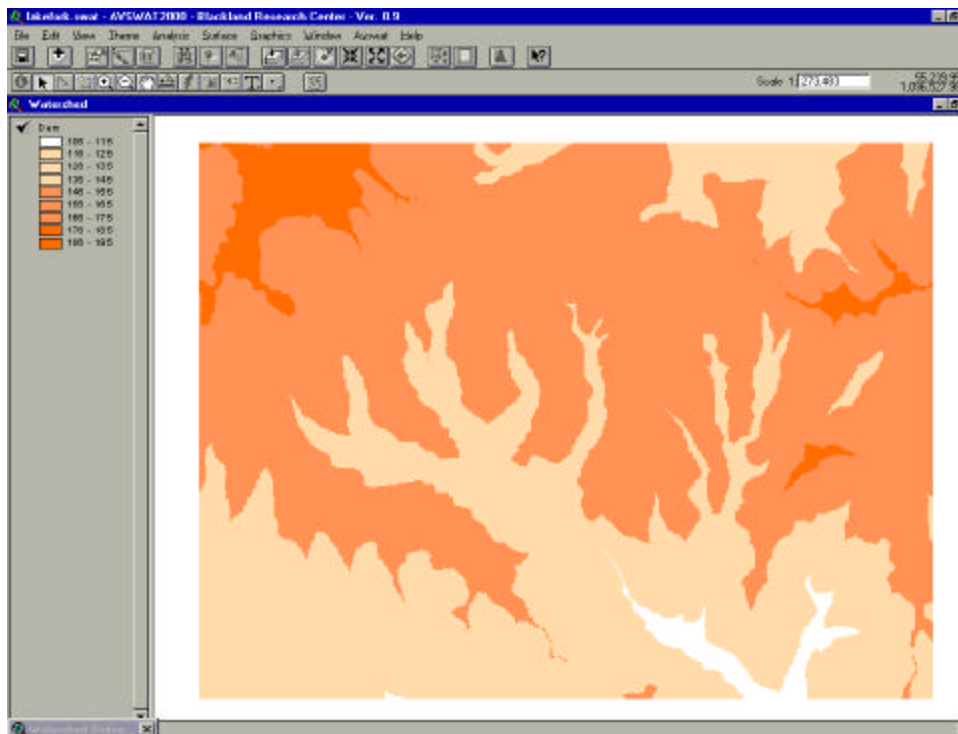

Figure 15.11
5. The name of the elevation map grid will be displayed in the **DEM grid** text box on the Watershed dialog box, and the elevation map will be displayed (Figure 15.11).